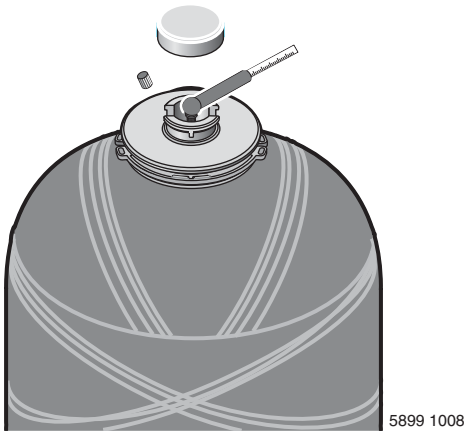

Figure 3: Use A Tire Gauge To Check Pre-charge In Air Cell
4. Recharge tank with air pressure (see Figure 3, page 5) according to Chart I, Page 3; install valve cap and pole piece cap; reconnect power to pump. Tank is ready for service.